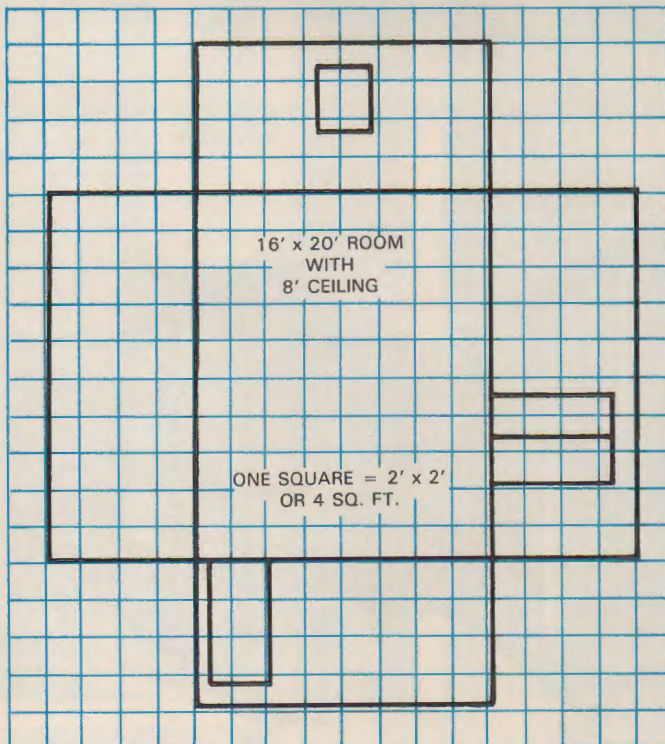

Fig. 51-17. Sketch the room on grid paper to help you calculate the number of sheet or millwork panels for the job.
1. Sketch the floor plan and wall elevations on graph paper, Fig. 51-17.